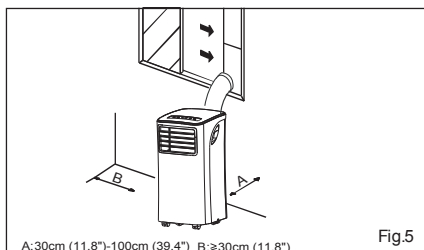

Fig.5
- Allow at least 11.8" (30 cm) to 39.4" (100 cm) of space from the wall for efficient air-conditioning (see Fig.5).